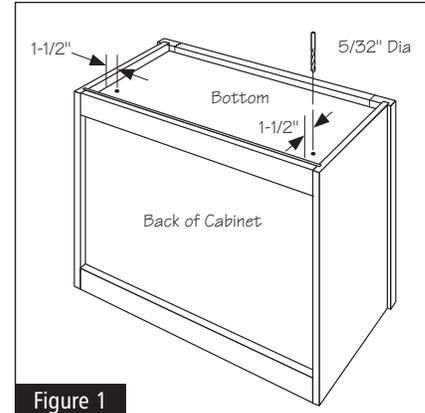

Figure 1
**1** Drill two 5/32" holes through the bottom of the Cabinet. The holes should be drilled 1-1/2" in from each side of the cabinet and 1-1/2" in from the back of the Cabinet. See Figure 1.